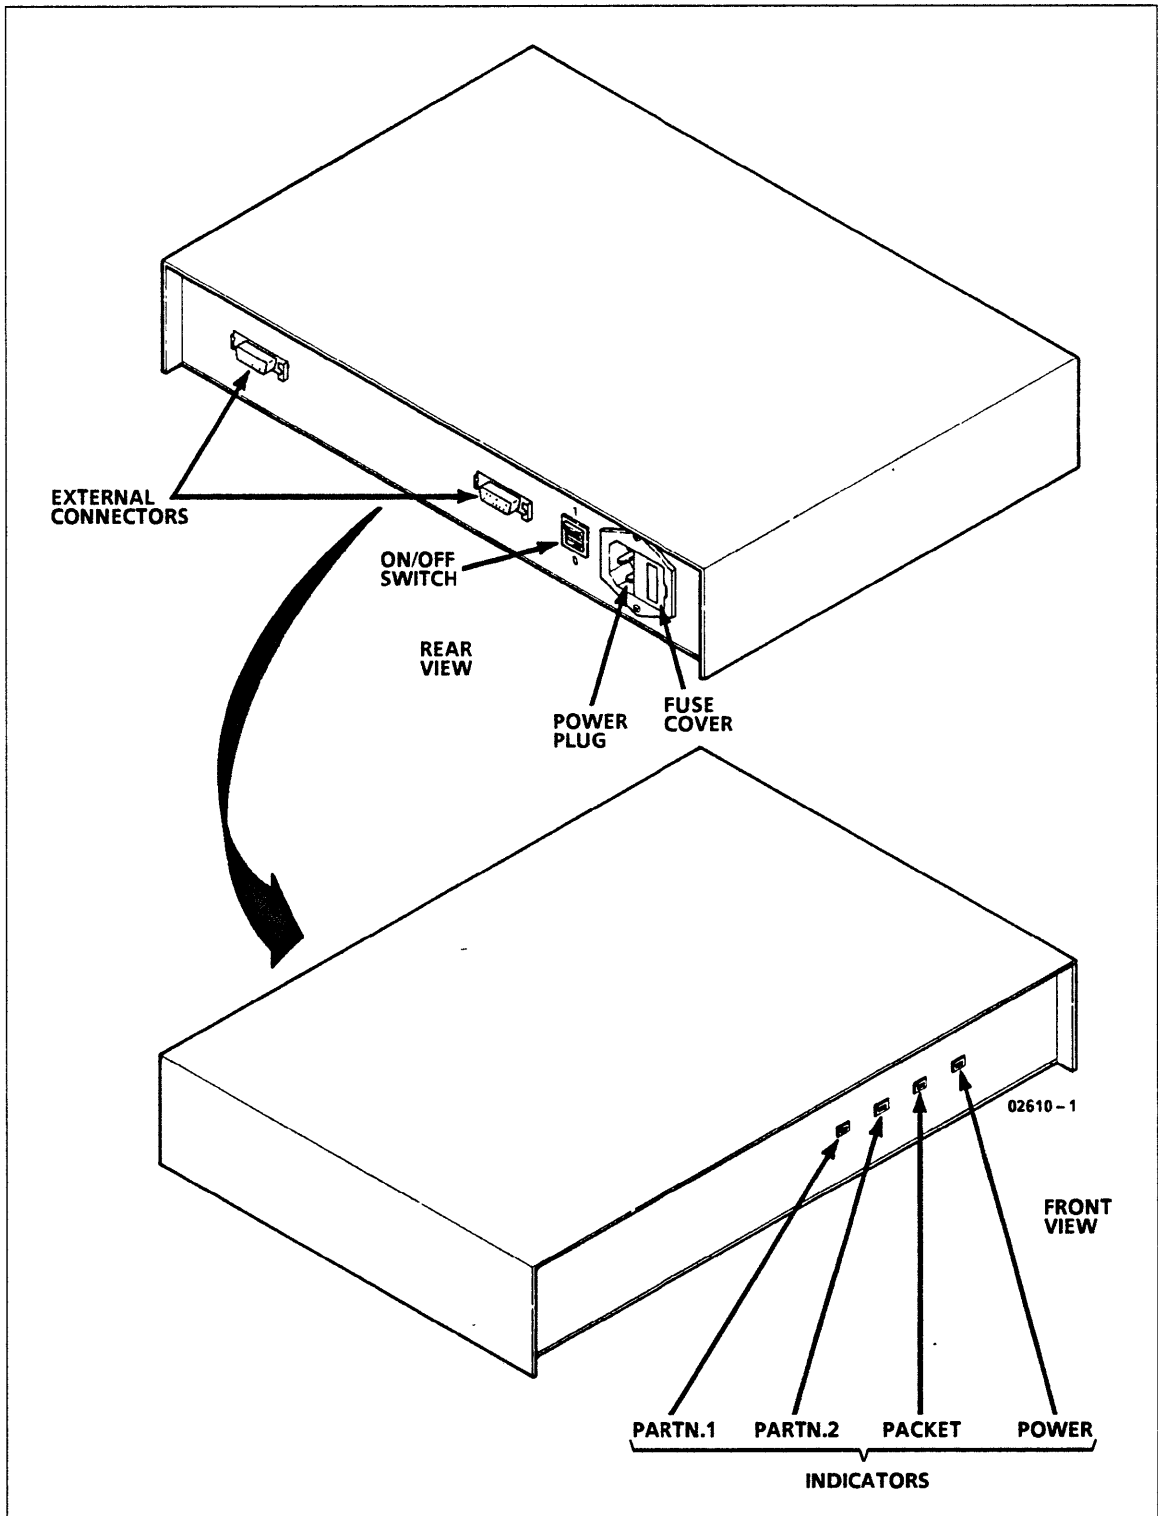

Figure 9-33. TN114B Repeater
1. Turn power off by pressing ON/OFF toggle switch in back of repeater and unplug power cord (figure 9-33).